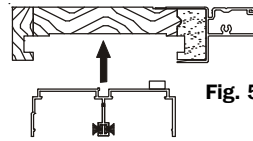
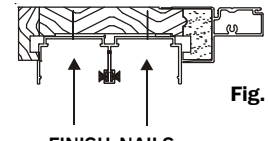

Fig. 5
Fig. 6
5. Install the head jamb gasket in place, Fig. 5, making sure the foam strip is to the exterior. Using a few small finishing nails to secure it into the head, Fig. 6. The number of nails will depend on the overall width.